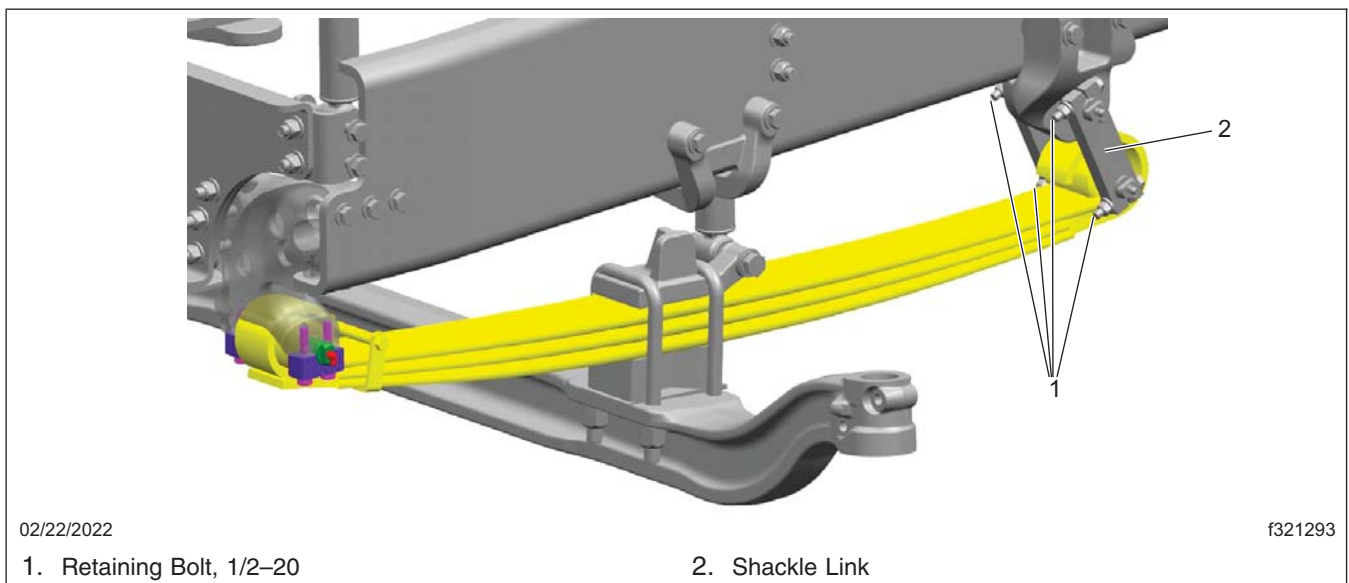

Fig. 1, Front Suspension Setup
5. On one side of the vehicle, remove the four M12 shackle link retaining bolts and discard them. See **Fig. 1**.